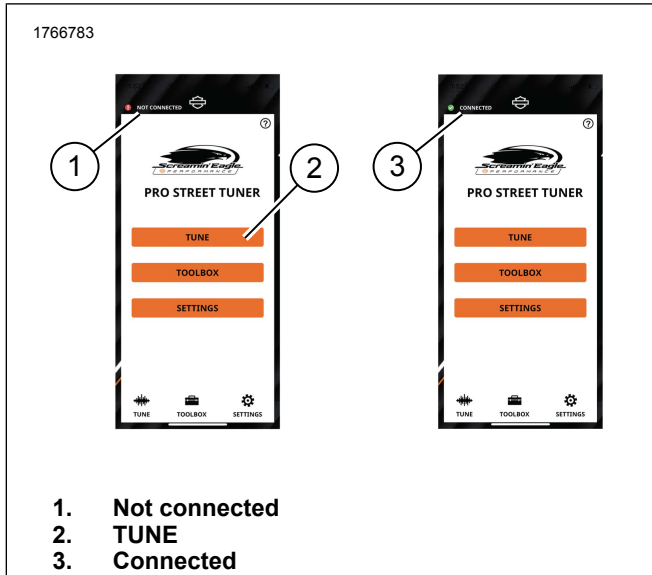

Figure 1. BCI Screen
- d. Figure 1 Select **TUNE** (2).
- g. Figure 1 Once connected, screen will display green connected (3).